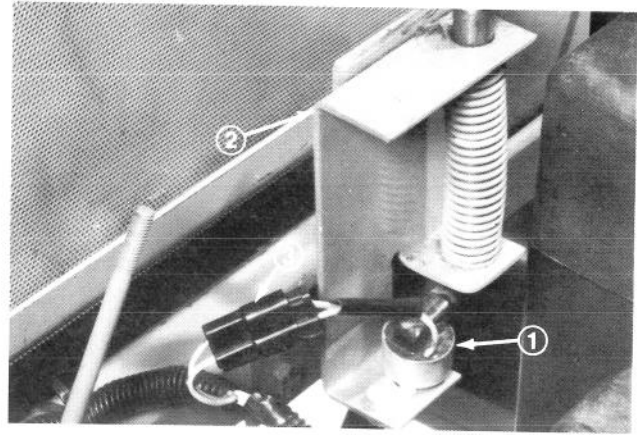

Figure 6
2. Mount seat support bracket to frame (Fig. 6).
3. Remove seat switch from shipping bracket (Fig. 6) and mount to seat support bracket using same fasteners (Fig. 6). Connect switch connector to main wire harness connector (Fig. 6).
3. Remove seat switch from shipping bracket and mount to seat support bracket using same fasteners (Fig. 6). Connect switch connector to main wire harness (Fig. 6).